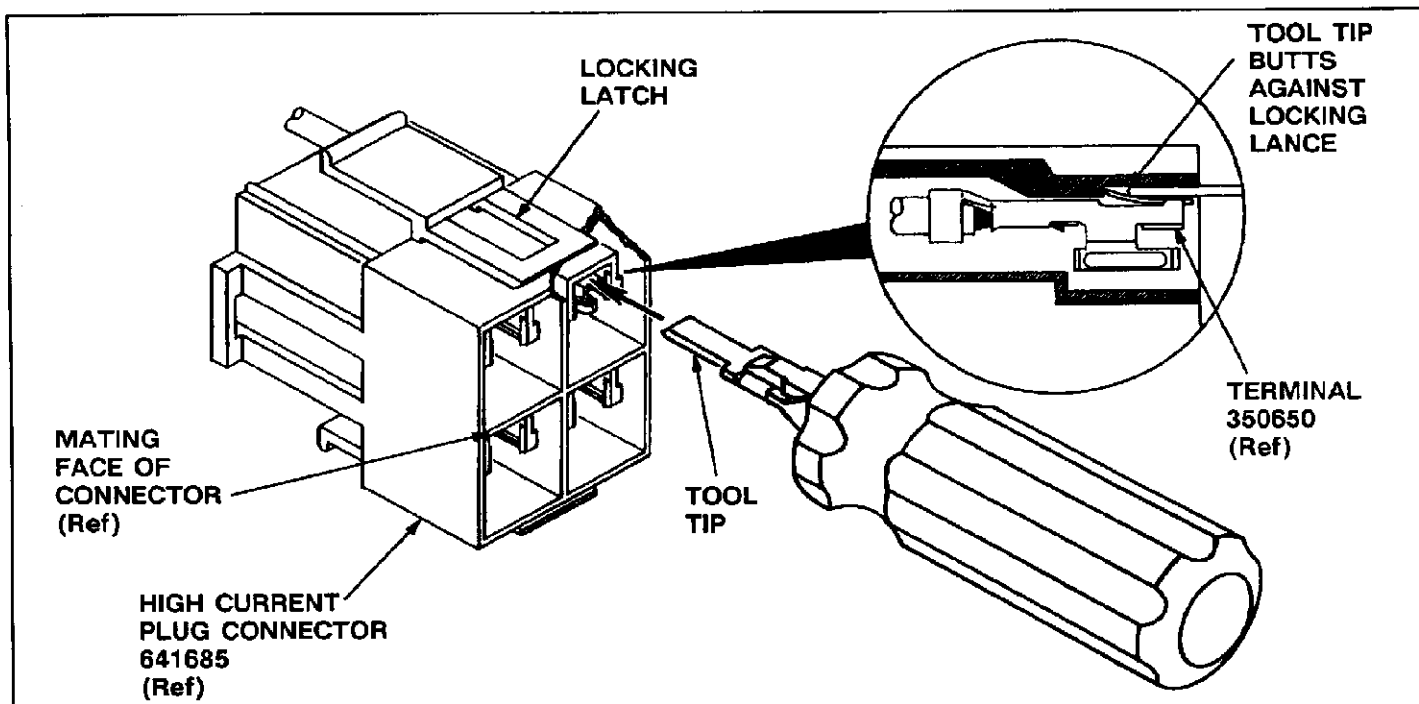

Fig. 2
3. EXTRACTION PROCEDURE (Figure 2)
1. Unmate connector assembly (release locking latches and pull the connectors apart). Hold mating face of connector toward you and orient the connector cavities as shown in Figure 2.